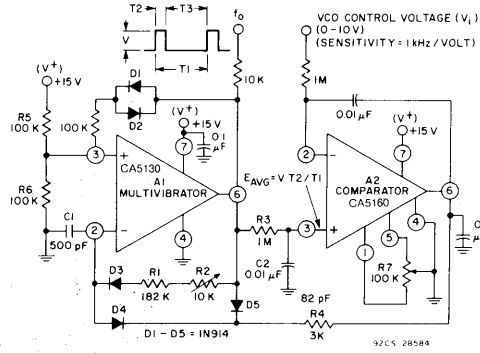

Fig. 25 — Voltage-controlled oscillator.
The circuit diagram of a precision voltage-controlled oscillator is shown in Fig. 25. The oscillator operates with a tracking error in the order of 0.02 percent and a temperature coefficient of 0.01%/°C. A multivibrator (A_1) generates pulses of constant amplitude (V) and width (T_2). Since the output (terminal 6) of A_1 (a CA5130) can swing within about 10 millivolts of either supply-rail, the output pulse amplitude (V) is essentially equal to V^+ . The average output voltage ($E_{avg} = V T_2/T_1$) is applied to the non-inverting input terminal of comparator A_2 (a CA5160) via an integrating network R_3, C_2 . Comparator A_2 operates to establish circuit conditions such that $E_{avg} = V_1$. This circuit condition is accomplished by feeding an output signal from terminal 6 of A_2 through R_4, D_4 to the inverting terminal (terminal 2) of A_1 , thereby adjusting